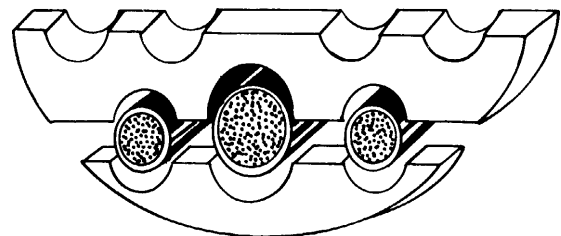

FIGURE 28 - CORRECT SHAPE OF CABLES
- 6.41** Before applying the end plate, oval the cables to prevent pinching the sheath. (Figure 28)